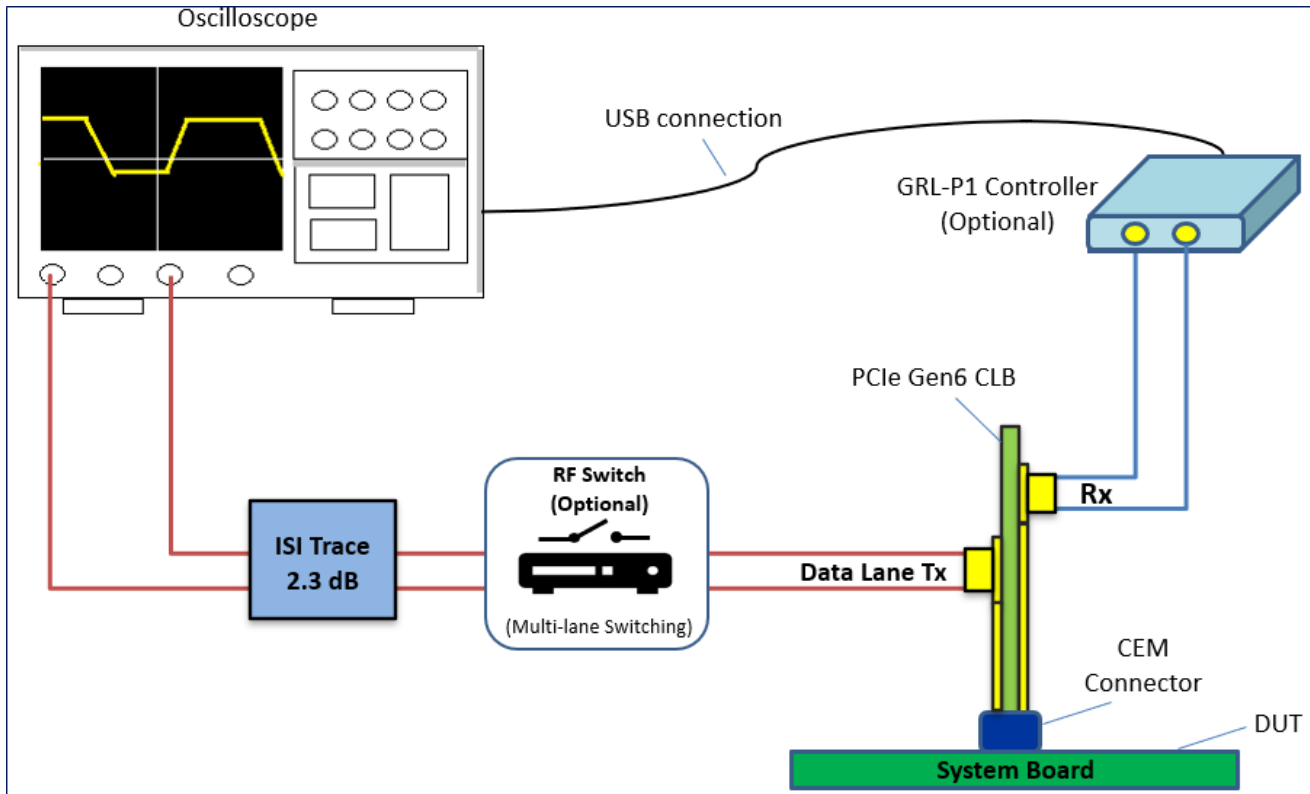

FIGURE 21. CONCEPTUAL PCIe GEN6 SYSTEM BOARD TX TEST SETUP DIAGRAM USING GRL-P1 (WITH RF SWITCH AND ISI)
4. If using ISI, connect a 2.3 dB ISI in between the RF Switch outputs and Scope channels (Figure 21 below).